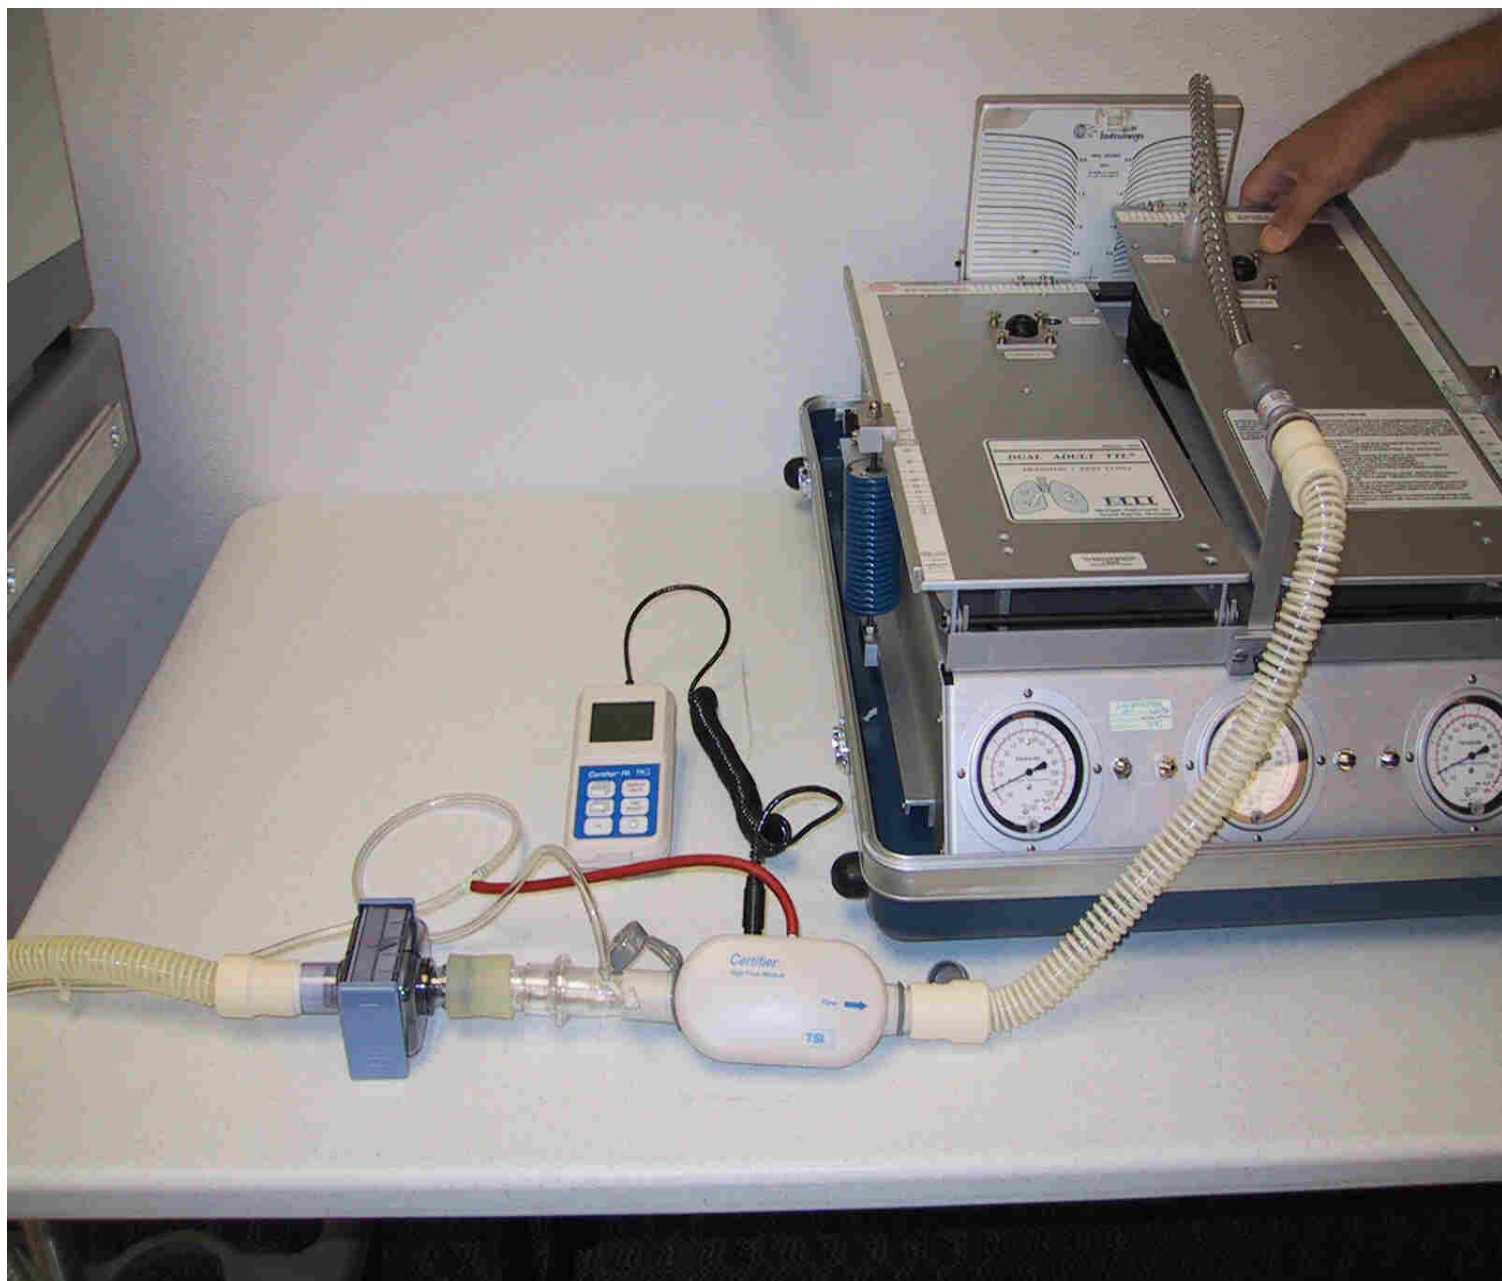

Figure 8-7
- Step 7** Remove the plug and connect the test lung. (Compliance set to 0.05, Parabolic Resistor RP 20). See **Figure 8-7 for setup instructions**.